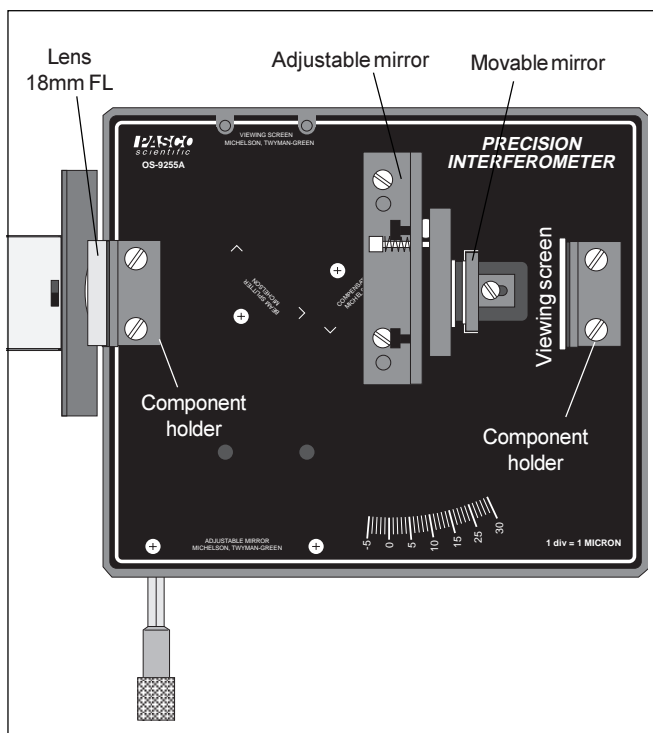

Figure 8. Fabry-Perot Mode Setup
2. Mount the adjustable mirror where indicated on the interferometer base and one component holder in front of the movable mirror. See Figure 8.